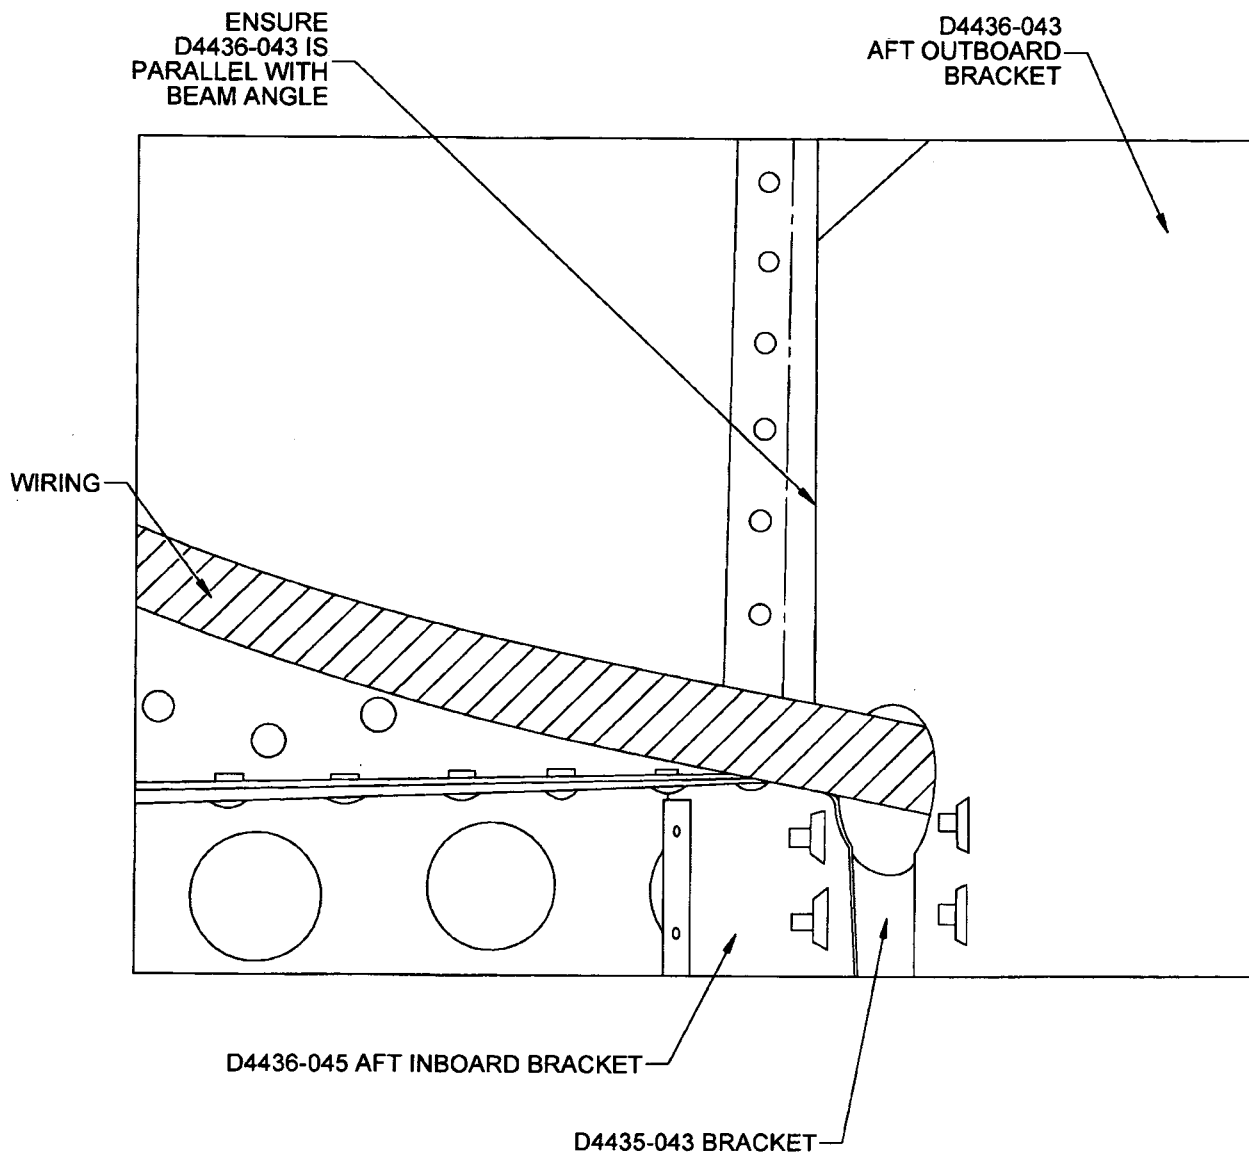

Figure 4. D4436-043 & D4435-043 Brackets Installation D
- b) Confirm that the D4436-043 Aft Outboard Bracket and beam angle are parallel as shown in Figure 4.